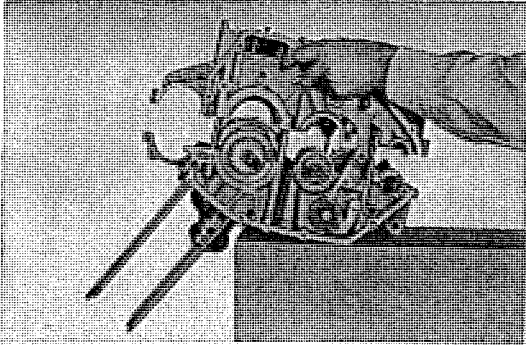

Fig. 3.121 After the transmission and crankshaft are coupled, the lower crankcase should be matched
1. Clean all transmission gears and inspect for damage or scars. Sub-assemble. (Refer to Fig. 3.121)